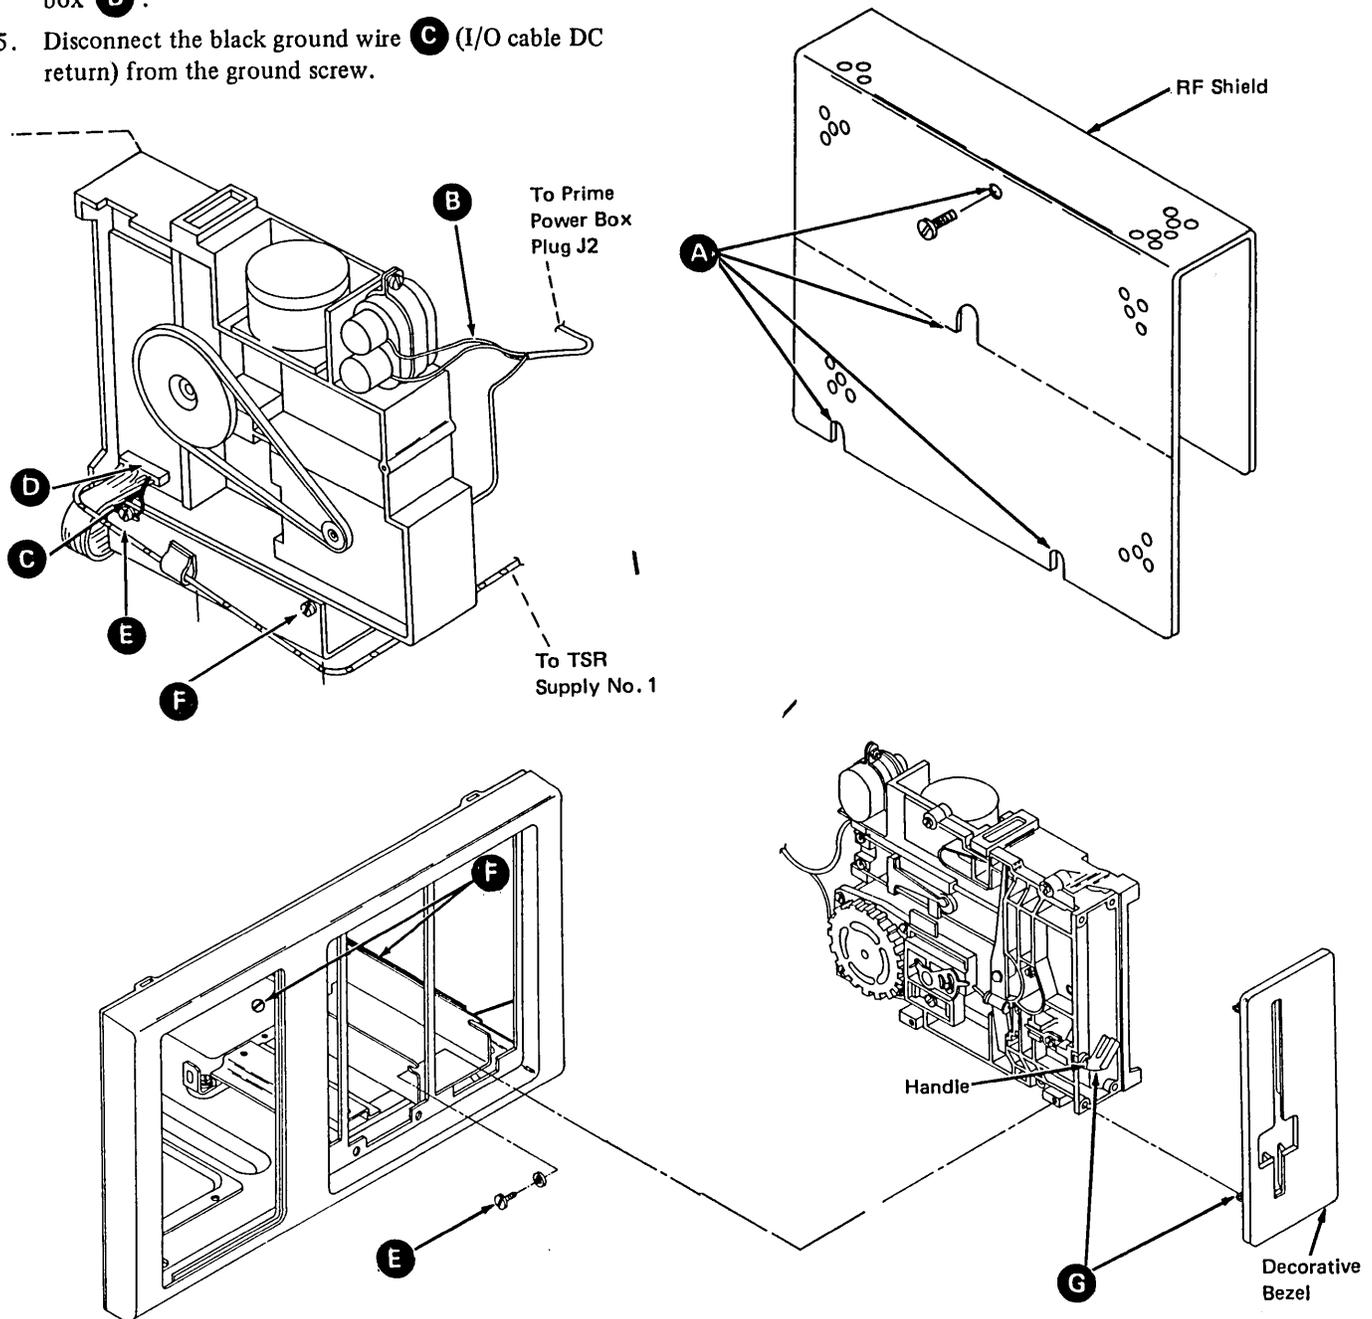

Figure 4-11. Diskette Drive
4.12 Diskette Drive, Removal and Replacement (Figure 4-11)